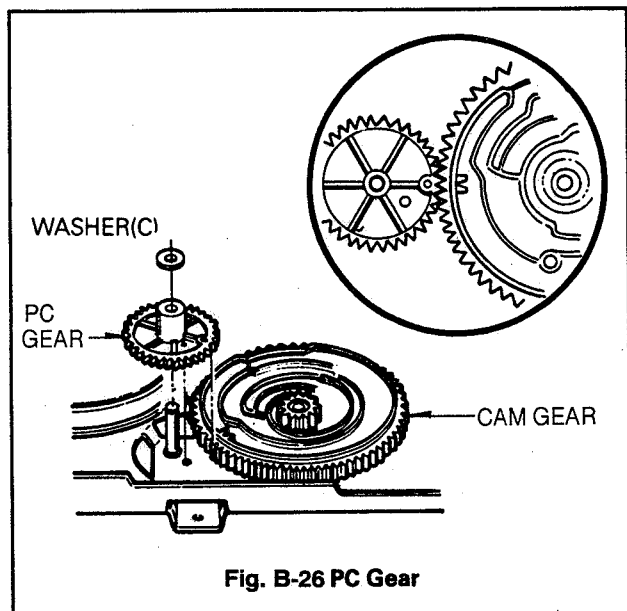

Fig. B-26 PC Gear
- ① Align the Projection of Rack Gear T with the hole of Loading Gear.
- ② Drive the Rack Gear F.L in the direction of arrow(D).
- ③ Hole of Cam should be aligned with the hole of chassis, and the groove(■) of Cam Gear should be aligned with the hole of PC Gear (Fig. B-26).
26. PC Gear(Fig. B-26)
- ① The Groove of PC Gear should be aligned with the groove(V) of Cam Gear, and another hole of it should be aligned with the hole of chassis (Fig. B-26).